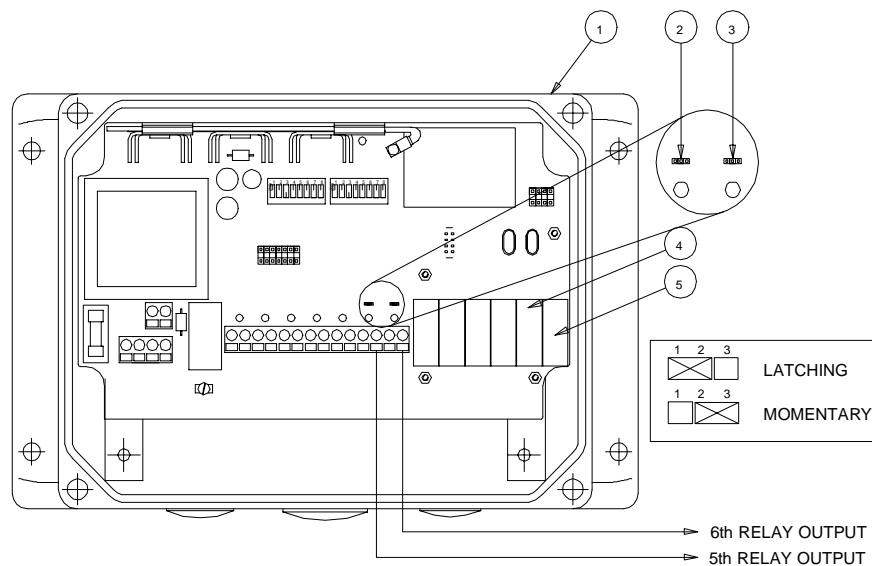

Figure 2.13: Changing the Latching Function
2. Reference Figure 2.13: Changing the Latching Function to locate the Latching Function Jumper Blocks inside the receiver. For momentary control place the jumper on pins 2 and 3 (factory setting). For latching control place the jumper on pins 1 and 2.